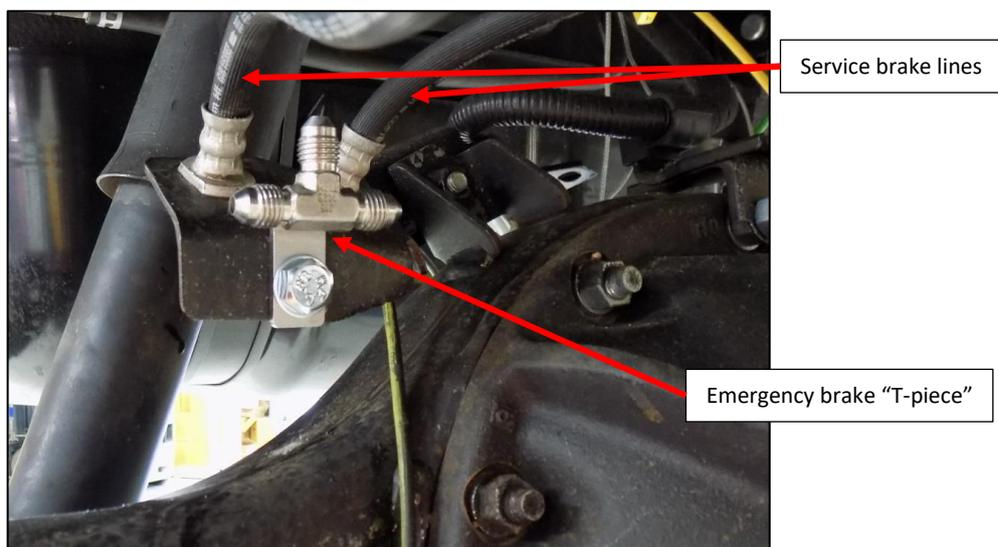

Fig. 44
- b. On vehicles with two brake lines to the rear axle (vehicles equipped with Electronic Stability Control - ESC). Mount the “T-piece” on the front of the bracket that holds the brake lines. See Fig. 44